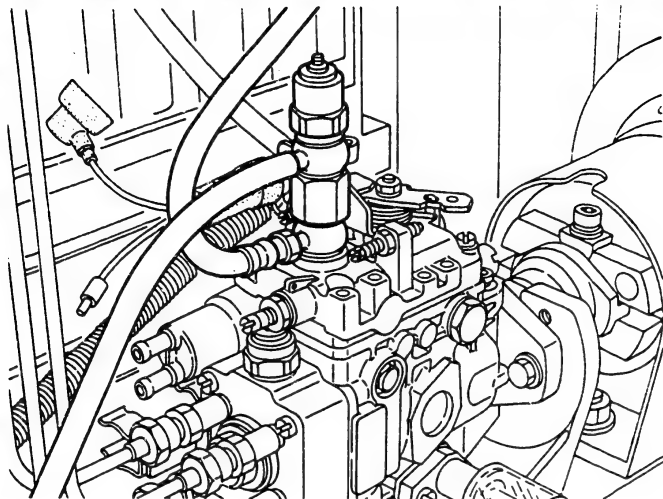

Fig. 194 Piping
1. After installing the fuel piping using the solenoid timer (136) and the bolt (commerc. available), perform the injection pump adjustments in the same order as that of the calibration data. (Fig. 194)